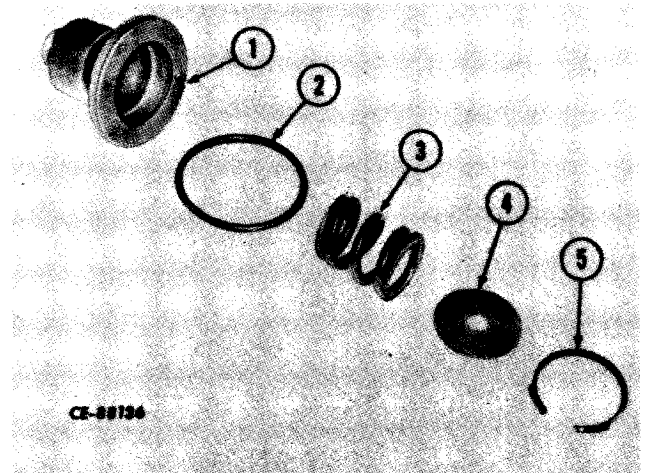

Figure 13-34
Using snap ring pliers, remove retaining ring (5, Fig. 13-34). Remove spring retainer (4) and spring (3) from piston (1). Discard "O" ring (2) from groove in piston.